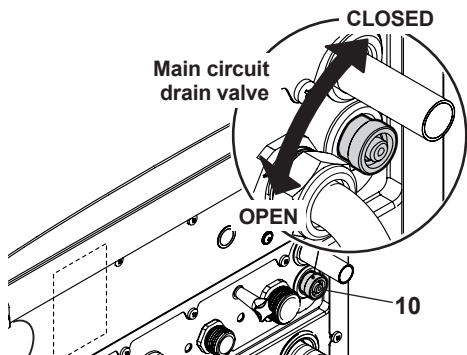

Fig. 9.6
- Loosen the central heating drain cock 10 indicated in Fig. 9.6.